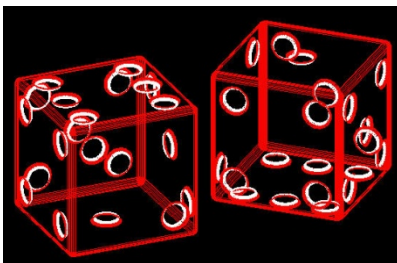

Figure 8. 2D Wireframe
2. Try each of the various Visual Styles. Your results should look similar to the following images in Figures 8 - 13.